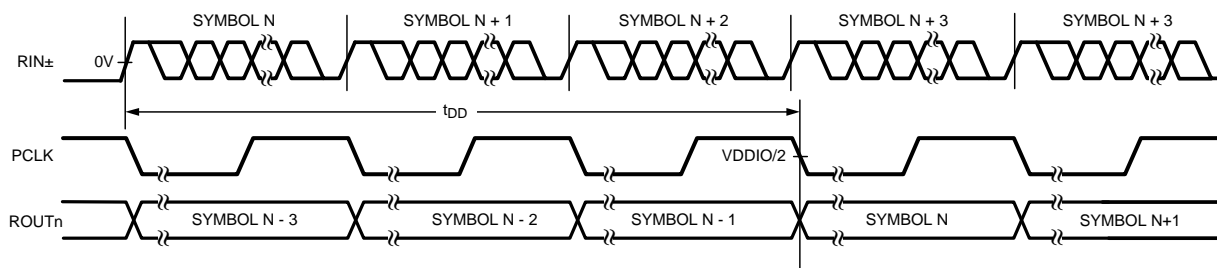

Figure 14. Deserializer Delay
| $t_{DD}$    | Deserializer Delay                  | Default RegistersRegister 0x03h b[0] (RRFB = 1)(Figure 14) (1)   | 10-bit mode                               | 154T  |      | 158T | ns   |